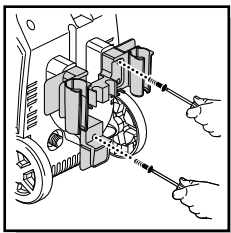
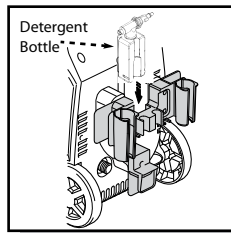

Fig. 1
Fig. 2
- Install the accessory holder on the back of your **BLUE CLEAN POWER WASHER** (Fig.1). You'll notice where the accessory holder meets the back of the unit. You will see several male index posts which fit into female holes. The posts and holes enable easy placement of the accessory holder and easy tightening of the screws. Place the screws in the holes provided on the accessory holder and screw them in. Do not use a power screwdriver. When the screw is completely tight, give a small final clockwise twist of the screwdriver. Do not over tighten. After the accessory holder is installed you will notice a square area in the center of the holder where the square detergent bottle may be stored and easily retrieved (Fig.2).
- Using one of the supplied screws, install the small electric power cord holder below the accessory holder so that the “L” - shaped holder faces downward. The electric power cord can now be wrapped around the accessory holder and the bottom “L” - shaped holder while your power washer is not in use (Fig.1).